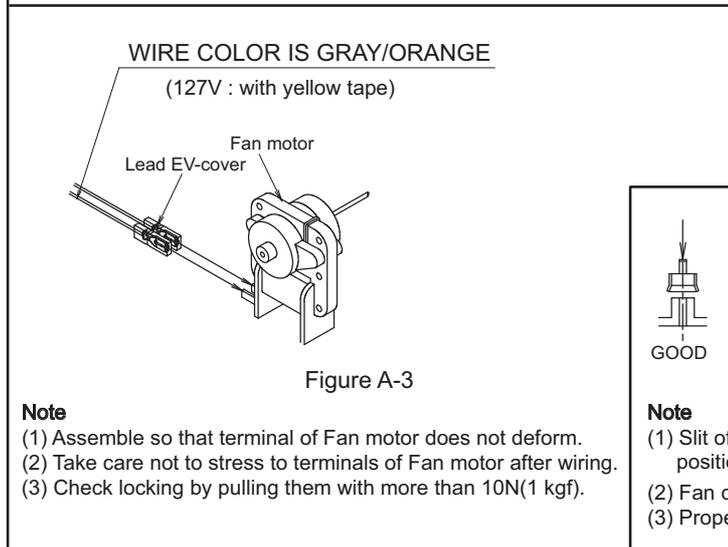

Figure A-3
2. Insert the terminal of Lead EV-cover to Fan motor (Fig. A-3).